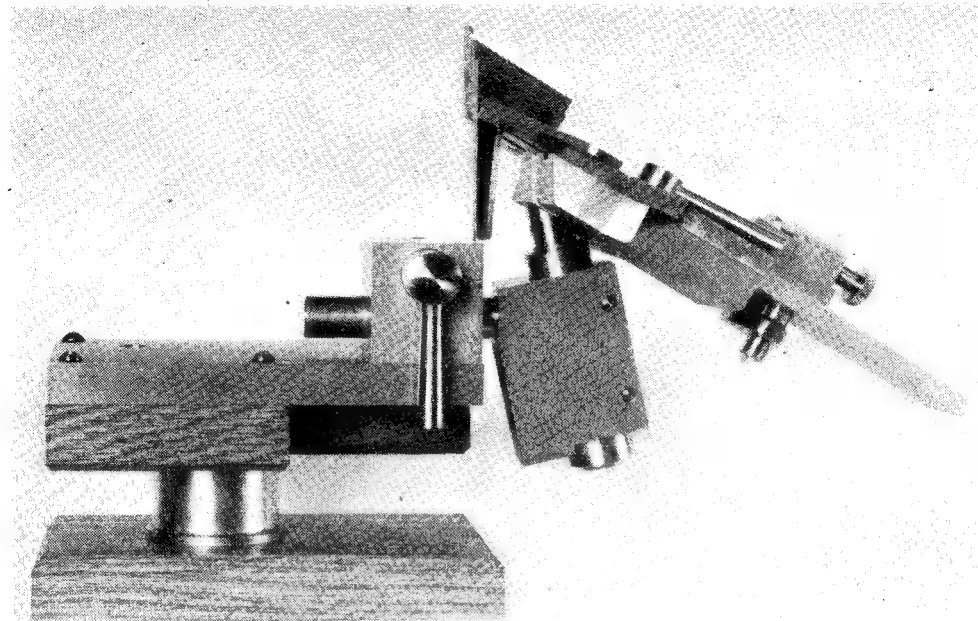

Fig. 13. The base bracket mounted above the baseplate to gain height
The finished machine illustrated is mounted on a two-part wooden base for demonstration purposes, and for normal use the steel baseplate is attached either directly to the bench, or by means of a single wooden base, so as to allow the drill slide to overhang the edge of the bench. As will be seen, a special grinding head, which will be described later, is secured to the common baseplate, but if instead the ordinary type of bench grinding head is used, the base-bracket carrying the jig is then mounted on top of the base, as illustrated in Fig. 13.
be inserted as shown in Fig. 12 and a fourth is put in mid-way between the two holes for the grinding head attachment screws, or in the position illustrated in Fig. 13.
drilled and bored, it is advisable to finish the interior by lapping, so that the spindle will slide freely when the drill is being moved up to the grinding wheel. As will be seen, the clamping bolt is formed with a long head fitting into a recess machined in the bracket; in addition, a set-screw is fitted to secure the clamp-bolt after it has been rotated to bring the lever of the clamp-nut into a convenient position for handling. The recess formed at the end of the spindle bore is for locating the spindle guide (F), but if the base-bracket is mounted above the baseplate, as illustrated in Fig. 13, this recess must then be machined at the opposite end of the bore and not as represented in the drawing.